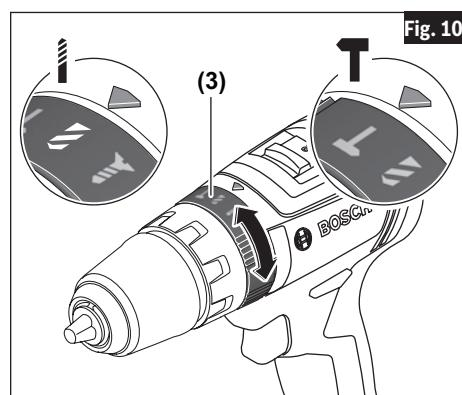

Fig. 10
The selector ring (3) allows the tool to be set for various drilling/hammer drilling applications. Rotate the selector dial right or left depending on the below applications (Fig. 10).